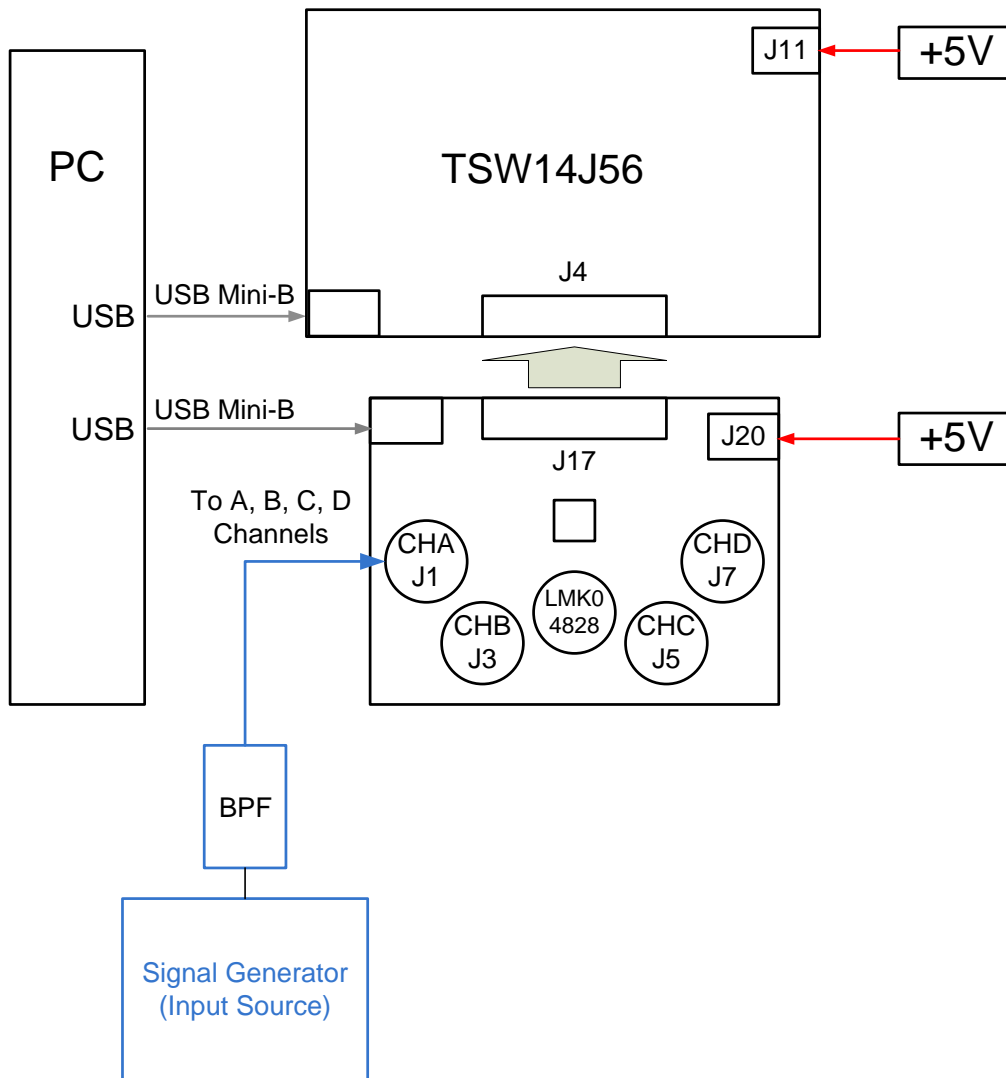
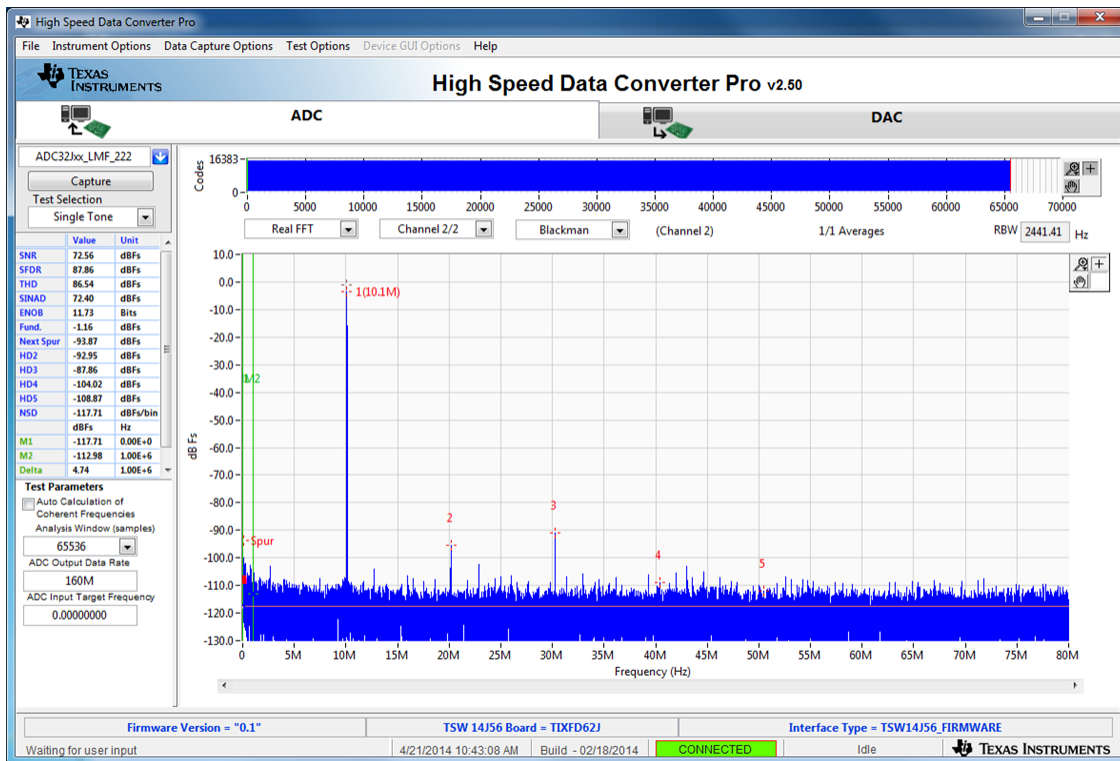

Figure 16. ADC32Jxx/ADC34Jxx and TSW14J56 Test Setup Block Diagram
Figure 18. ADC32Jxx Operating in 14-Bit Mode at 160 Mps with 10-MHz Input Signal
The test set-up for evaluation of the ADC32J/34Jxx EVM with the TSW1456 Capture Card is shown in Figure 16. As seen in this figure, the evaluation setup involves a clock from a high quality on board clock chip LMK04828 and a sine wave for the analog input from a high-quality signal generator. High order, narrow bandpass filters are usually required to remove phase noise and harmonic content from the input sine waves. Since the on board clock and input sinewave are not coherent then the resulting FFT will need to have a windowing function such as Blackman-Harris/Hamming/Hanning applied to the data.
- Select the number of sample points (and resulting number of FFT bins) to be used. The example shown in Figure 18 has 65536 samples.
- Enter the ADC32J/34Jxx sampling rate. The example shown in Figure 16 has the sample rate set at 160 Msps
- Enter the input frequency desired. The example shown in Figure 16Figure 18 has the filtered input frequency set at 10 MHz and around 10 dBm – adjust to achieve –1 dBFs on the HSDC Pro FFT plot
- Observe an FFT result similar to that of Figure 16